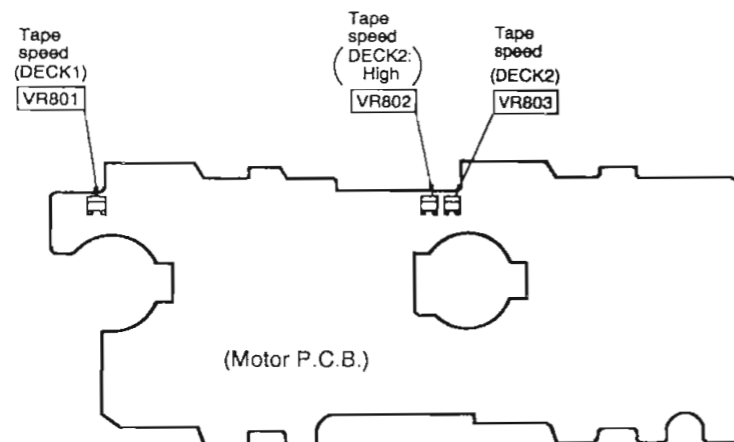

Fig. 2
- Adjust Deck 1 = **VR801** and Deck 2 = **VR803** for the output value shown below. (Refer to Fig. 2.)
- Adjust **VR802** so that the output frequency of DECK 2 is within ± 30 Hz for the value of the output frequency of DECK 1. (Refer to Fig. 2.)